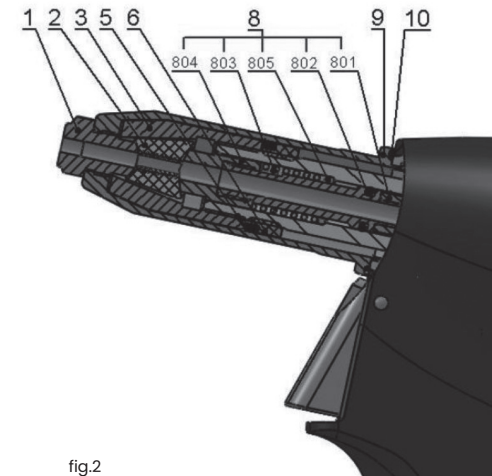
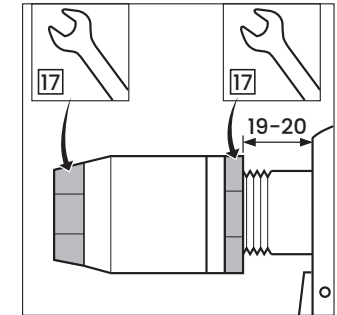

fig.2
fig.3
Disconnect the tool from the source of compressed air, unscrew the front nozzle /fig.2 - pos.9/ by means of a spanner no.23, set the spanner no.17 onto the clamping sleeve /fig.2 - pos.3/, set the spanner no.17 on the backnut /fig.2 - pos.6/ and loosen. Unscrew the clamping sleeve, replace the jaws /fig.2 - pos.2/ and
conduit-suction complete /fig.2 - pos.8/. All used threads are clockwise. Clean the dismantled parts thoroughly and check them visually, especially the following:
1. Jaws /fig.2 - pos.2/ - if worn or damaged, replace it, if dirty, clean it with a wire brush.
2. Nosepiece /fig.2 - pos.1/ - for wear of functional surfaces of the taper.
3. Conduit-suction complete /fig.2 - pos.8/ - inspect parts of the assembly, jaw pusher /fig.2 - pos.804/, spring /fig.2 - pos.803/, washer of spring /fig.2 - pos.805/, O - ring /fig.2 - pos.802/ and conduit-suction /fig.2 - pos.801/ - if damaged or worn, replace it with a new one.
4. Front nozzle /fig.2 - pos.9/ - check for damage of the internal surface [Ø20] .
5. Scraper ring /fig.2 - pos.5/ - if damaged or worn, replace it with a new one.
Mount the parts [see par. disassembly] in a reverse order. On the outer surface of the jaws /fig.2 - pos.2/ apply a drop of lubricating oil [we recommend hydraulic oil HLP ISO VG 32], apply thin layer of plastic lubricant MOGUL LV 2-3 to the conduit-suction complete /fig.2 - pos.8/. Basic set-up of the jaws is performed as in fig.3.